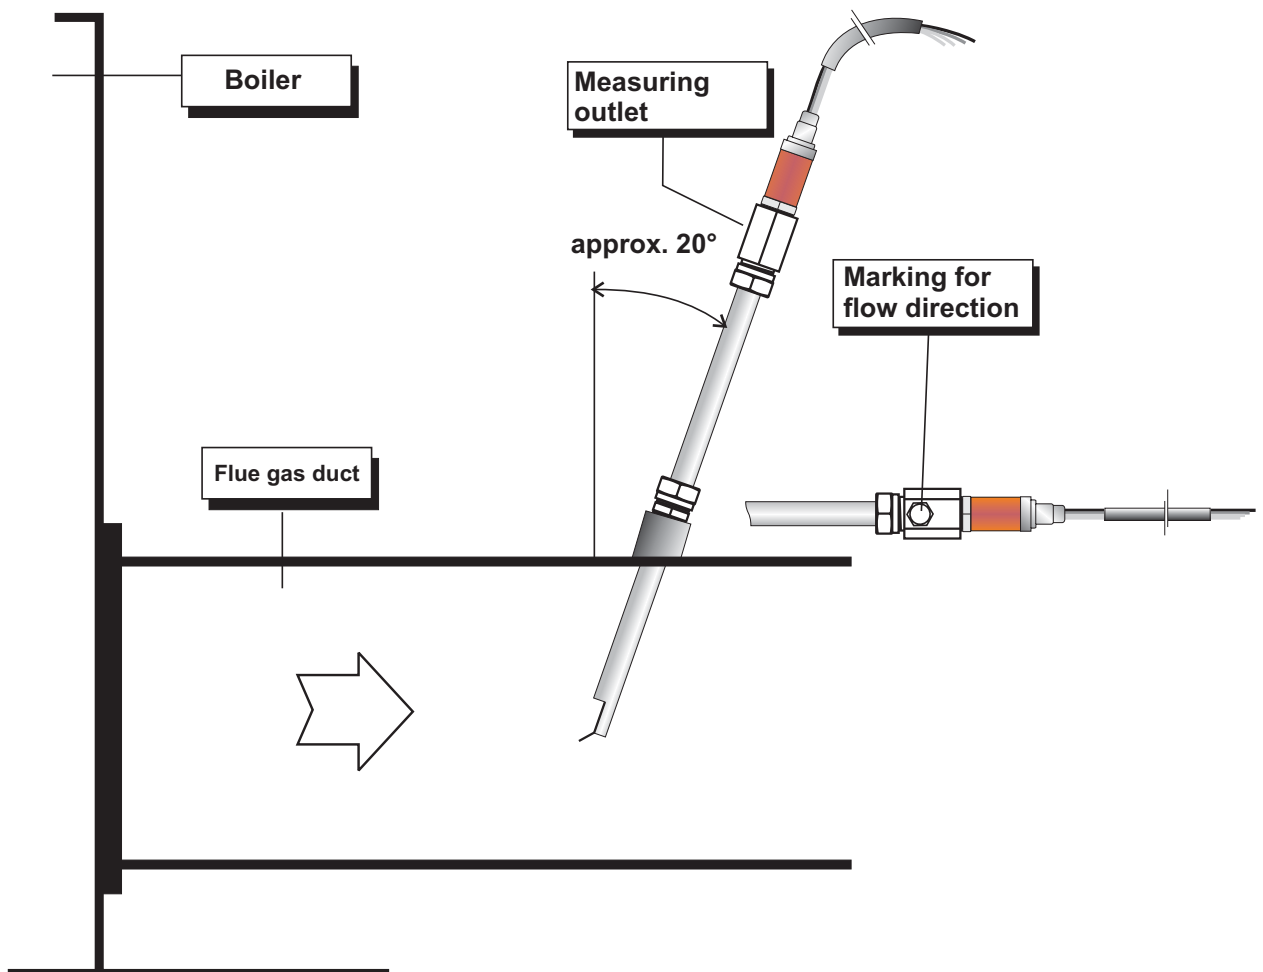

figure 1
1. Weld a G 3/4" inner threaded steel joint with a length of 5 to 7 cm to the duct in an angle according to figure 1. The joint should be placed on the top of the duct to avoid condensate to enter the sensor element.
4. Turn the sensor probe until the measuring outlet nut is directed against the flow acc. to figure 1.